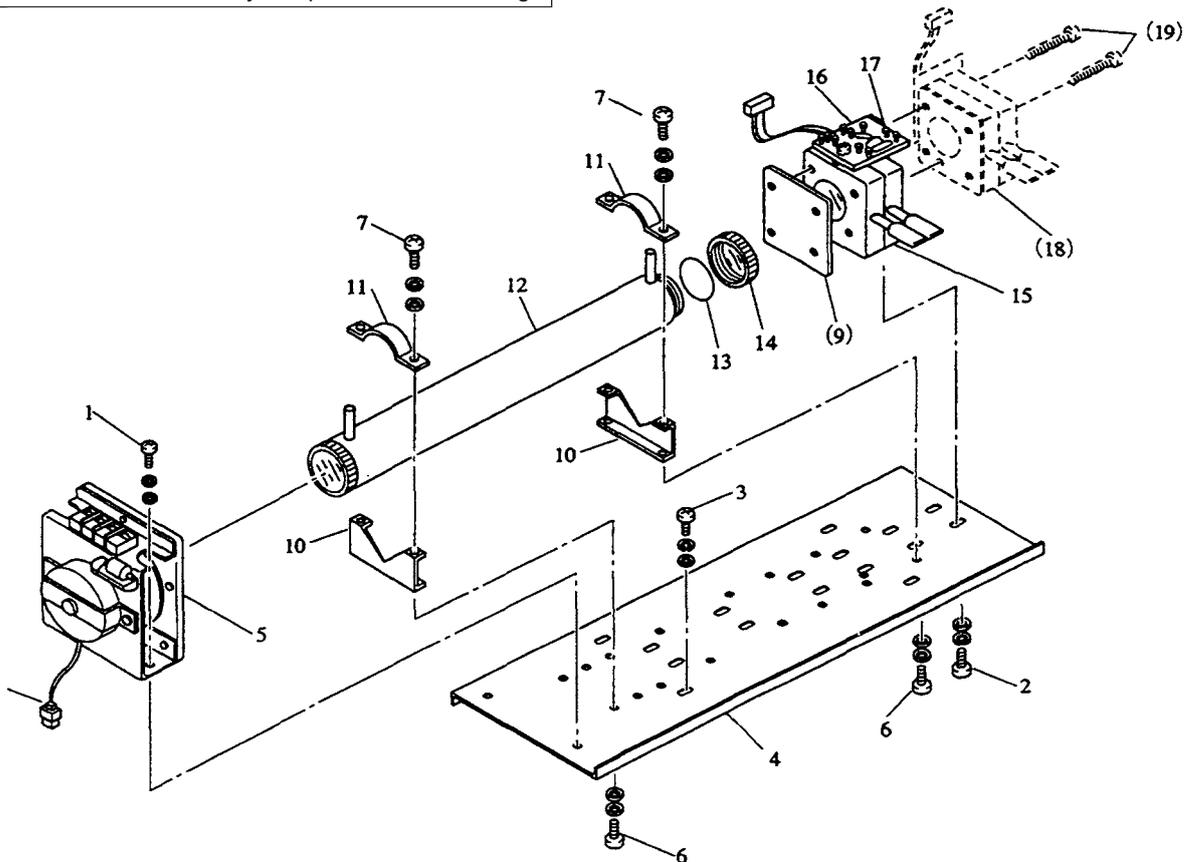

Fig. 6.1 Exploded view of measuring unit (Pipe cell)
(1) How to disassemble and reassemble pipe cell (refer to Fig.6.1)
- 5) Displace the infrared source unit (No.5 in Fig. 6.1) by loosening 2 fixing screws (No.1 in Fig.6.1) to base plate so as to make a gap between pipe cell (No.12 in Fig.6.1) and IR source unit.
- 6) Loose n and detach 4 screws (No.7 in Fig.6.1) of the cell holders (No.11 in Fig. 6.1)
- 7) Remove the cell from optical unit then detach both windows (No. 14 in Fig. 6.1) by rotating the window holders anticlockwise.
1) to 4) Proceed with the same procedures described in 1) to 4) of (1) how to disassemble pipe cell.
6) Remove both wiring to 2 pin terminals of the infrared source unit and 2 pin connectors (No.8 in Fig.6.1) of the chopper motor.
7) Remove 4 screws (No.4 in Fig.6.1) for fixing the base plate (No.3 in Fig.6.1) and take out the measuring unit.